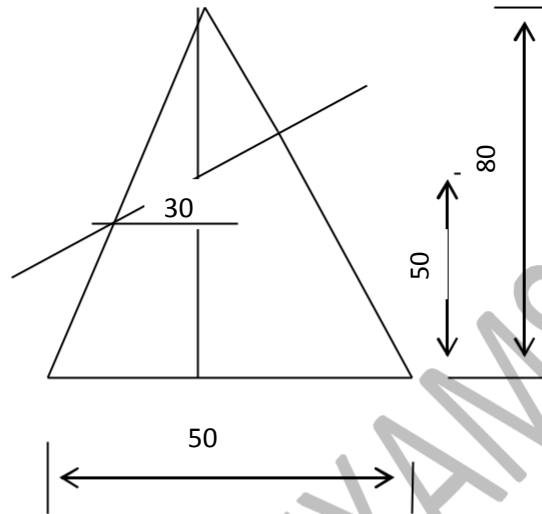

Fig3
7. Figure 3 shows a right cone truncated as shown. Draw the end elevation of the cone in the direction of arrow X.